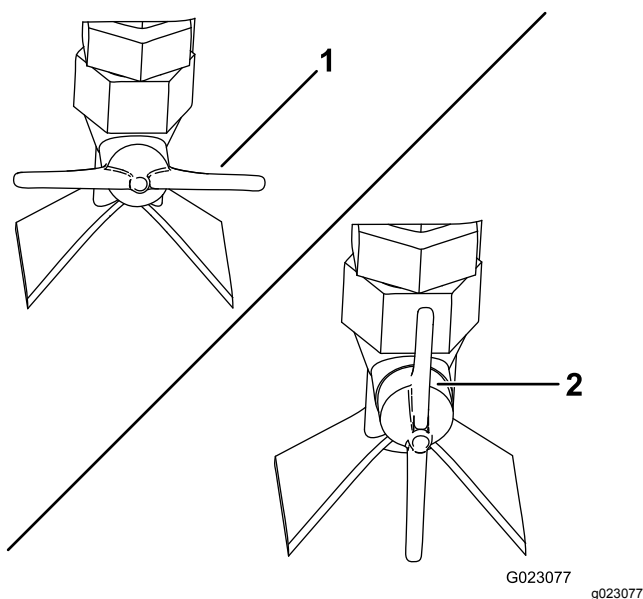

Figure 70
- For fan-shaped spray—turn the spray valve on the side of the nozzle horizontal (Figure 70).
- For a stream—turn the spray valve on the side of the nozzle vertical (Figure 70).